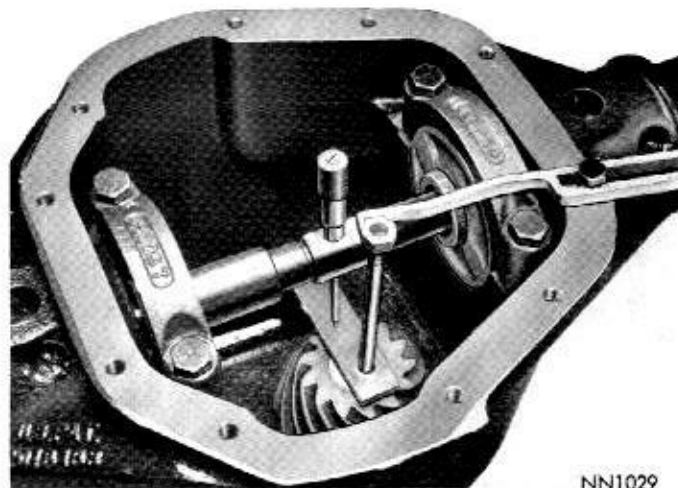

Fig. 39—Determining Pinion Depth Setting
(8) Install the step plate clamp assembly on the carrier housing. Position step plate over pinion and tighten step plate screw against step plate. Make sure the four step plate feet are squarely positioned on the pinion.
(9) Adjust the micrometer so it is directly over and at a 90 degree angle to the step plate. Screw the micrometer down until the anvil contacts the top of the step plate (Fig. 39). Read the micrometer and make a note of the reading. The step plate measures .400 inch thick, therefore, add the .400 inch step plate thickness to the micrometer reading.